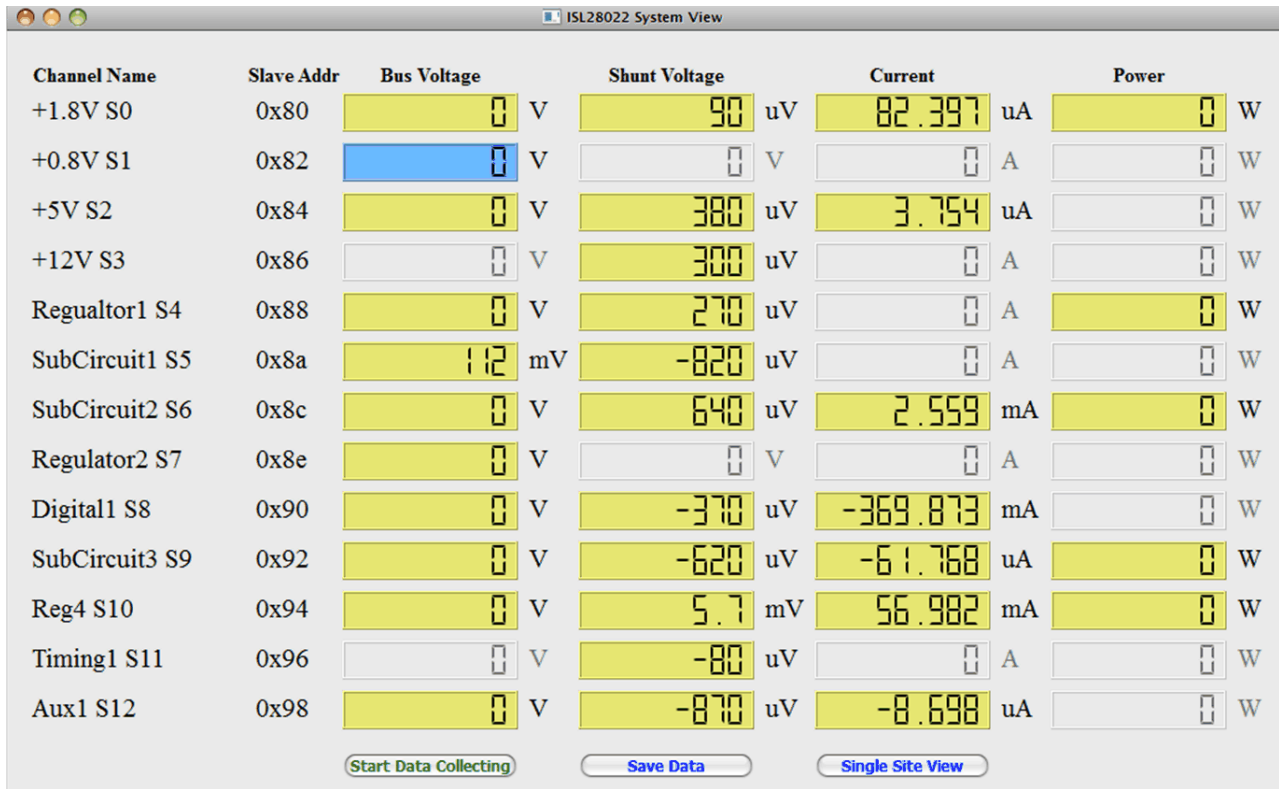

FIGURE 16. PICTURE OF THE SYSTEM VIEW WINDOW FOR MULTIPLE ISL28022 CONNECTED TO THE DONGLE
- To enter the system view, select System under the View drop down menu. The window in Figure 16 will appear while the main GUI window will disappear.